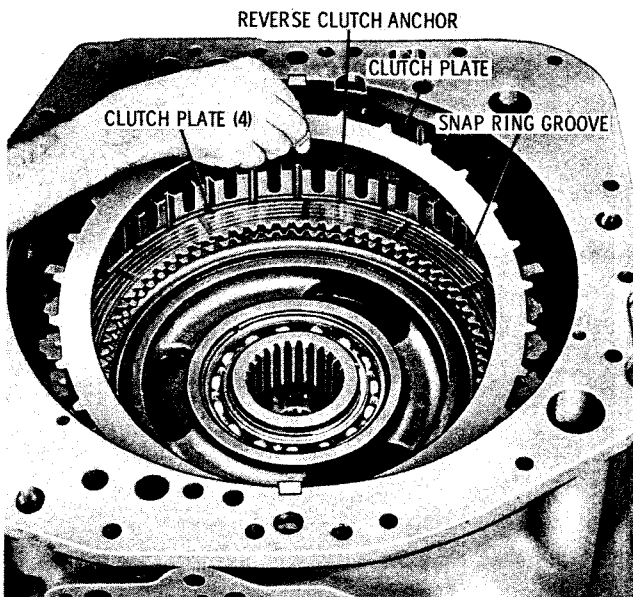

Fig. 7-25. Installing reverse clutch external-splined plate (5631 models)
(1) Install the reverse clutch anchor, broad flat side downward (fig. 7-25). Beginning with an external-splined clutch plate, and alternating with internal-splined plates, install three external- and two internal-splined plates.
(2) Install the large internal snap ring into the groove in the reverse clutch anchor (fig. 7-25).